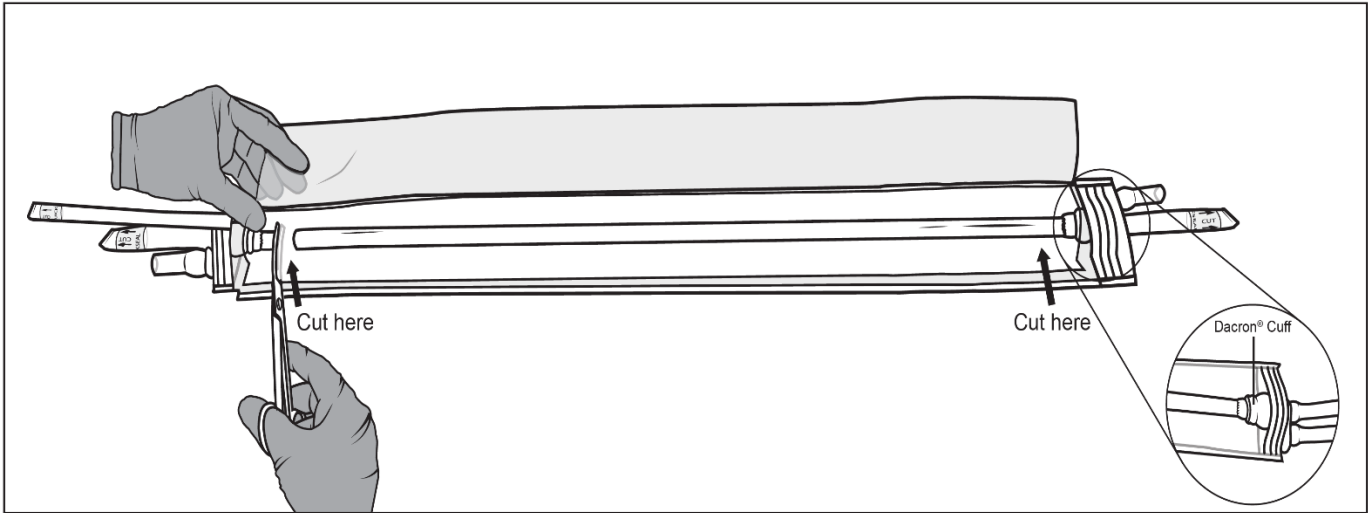

Figure 7: Sterile operator cuts SYMVESS 1 cm from the Dacron[®] cuff using surgical scissors
Step 7: Holding back the flaps of the open packaging bag, cut SYMVESS 1 cm from the Dacron[®] cuffs (below the blue sutures) to free it from the packaging bag (Figure 7). Approximately 40 cm in length of SYMVESS should be available for use.